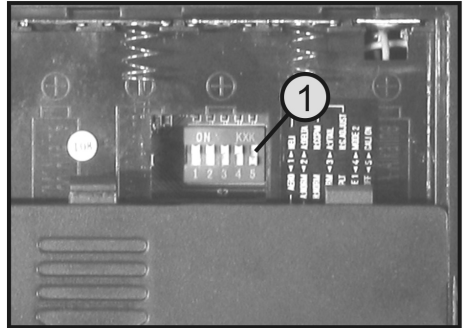

Figure 37
Switch off the transmitter and move the DIP switch 5 (see figure 37, item 1) from the bottom position „OFF“ in the top position „ON“.